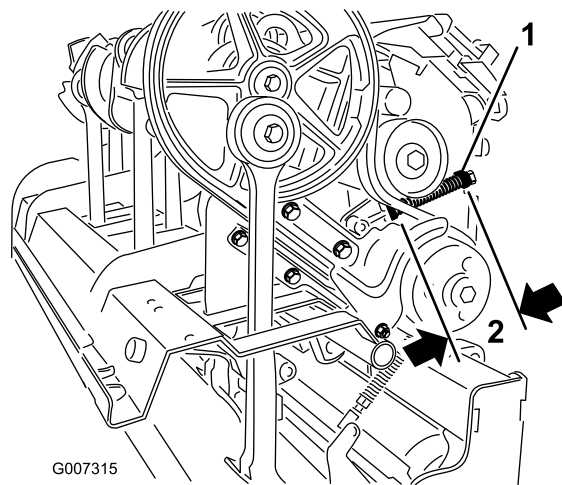

Figure 31
C. Loosen the lock nut securing the spring retainer (Figure 31).
D. Adjust the spring retainer to attain required compressed spring length (Figure 31).